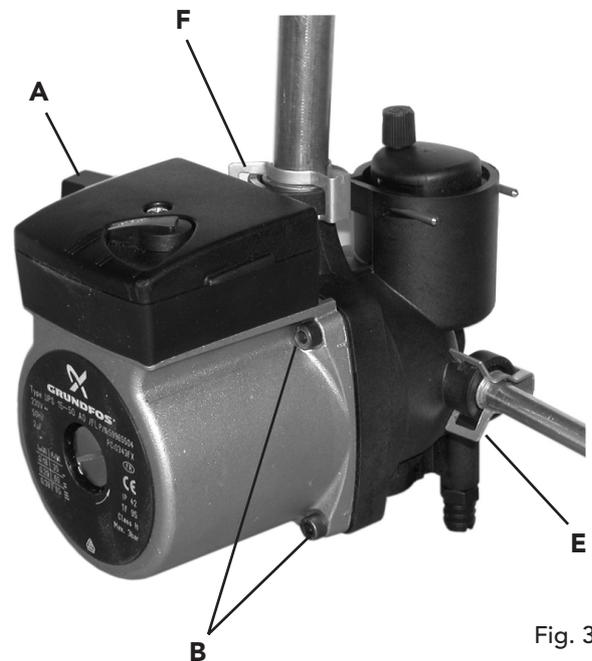

Fig. 36
**7.12 Pump (fig. 36)**
**Replacement of pump body (fig. 36)**